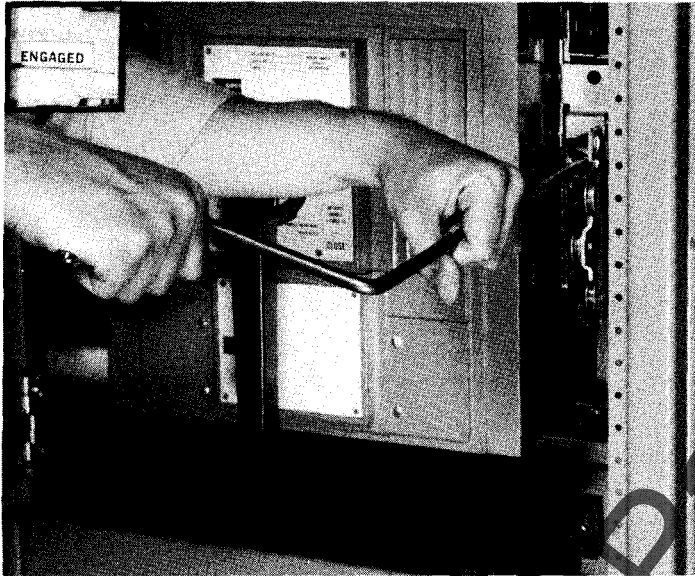

FIGURE 31.
1. With door open, use crank handle and $\frac{3}{4}$ " socket to turn mechanism screw counterclockwise as far as it will go. Indicator window will show "TEST." See Figs. 31 & 32.